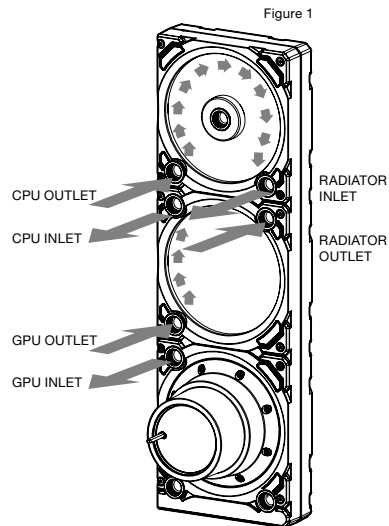

Figure 1
1. Locate the correct ports. It is mandatory to use the correct ports, as marked on the picture (see Figure 1).